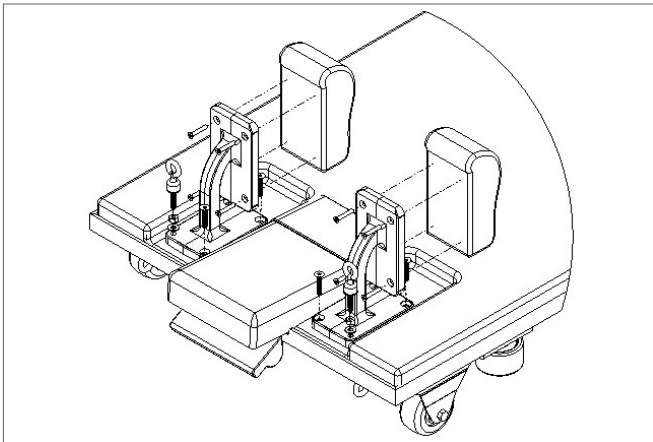

Figure 6
12. Unscrew the screws that hold the shoulder pads to the shoulder supports, keep the screws. See Figure 6.
13. Remove the screws that hold the shoulder supports to the carriage. Move the shoulder support from the old carriage to the new carriage as shown keeping it in the same orientation and position. Tighten all screws once on the plate, then repeat. Ensure the eyebolts end up in the same orientation as shown in Figure 6. Note: Shoulder pads must be removed first and re-installed last to allow access to the screws in the shoulder supports.